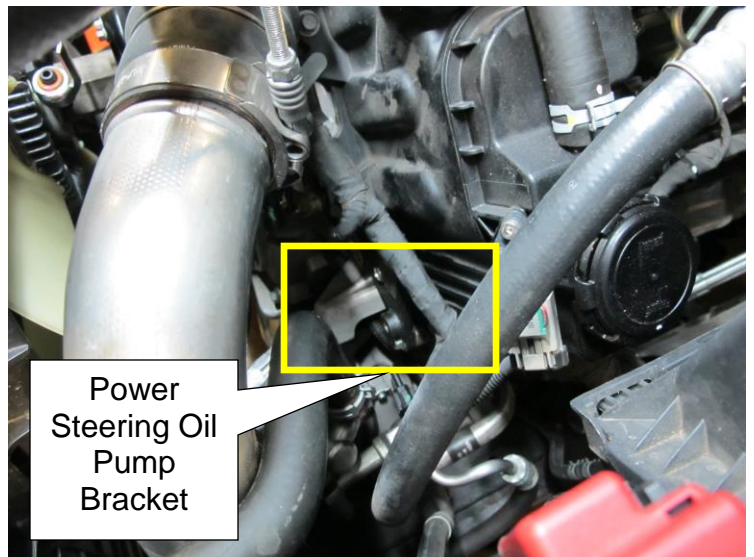

Figure 7
6. Locate the power steering oil pump bracket and the three 12MM bolts (Figure 7, 8).